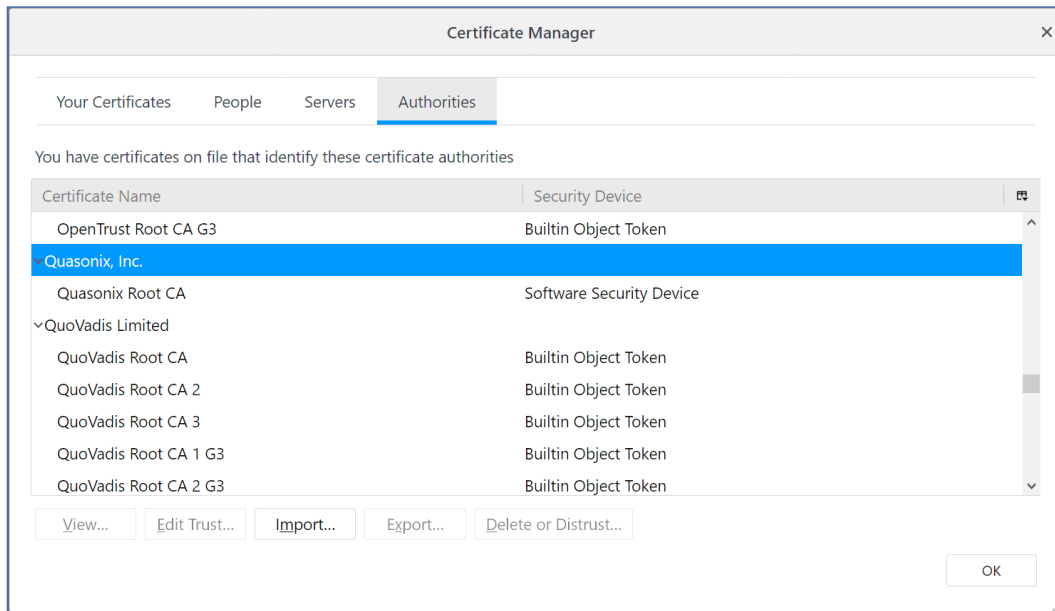

Figure 174: Firefox Certificate Manager with Quasonix Root CA Added
10. Scroll through the Certificate Names in the Authorities tab of the Certificate Manager to ensure "Quasonix, Inc." is in the list, as shown in Figure 174.